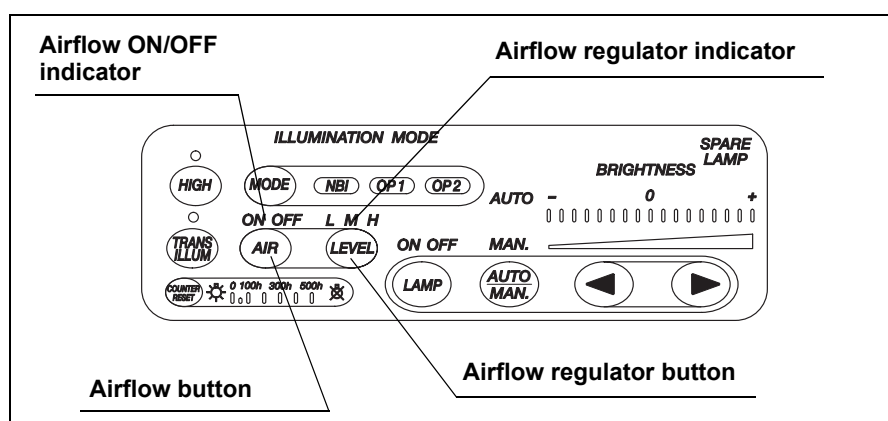

Figure 3.12
2. Then press the airflow regulator button repeatedly and confirm that the indication of the airflow regulator indicator is switched in the cycle of “L” (low), “M” (medium) and “H” (high) (see Figure 3.12).